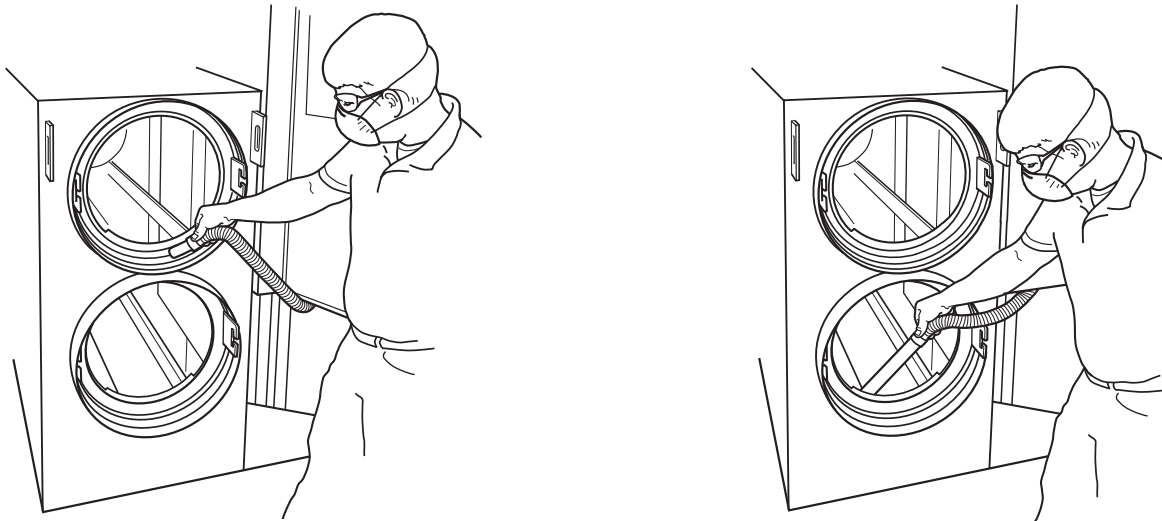

Figure 19
8. Power ON the DPF Cleaner, and select VACUUM from the Main Menu. Use the vacuum hose and attachments to remove ash from the cartridge door area and from inside the chamber. See Figure 19.